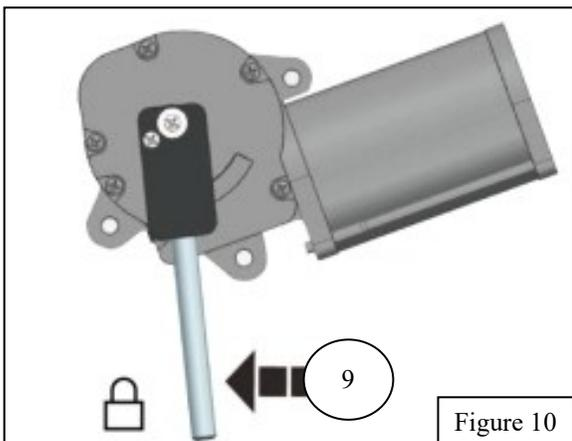

Figure 10
5. Install the motor clutch handle (**Item 9**) onto the motor assembly. Lift the handle upward to disengage the motor. Rotate the motor arm (A) so that it aligns with the rotating shaft in the canister (B). See **Figures 10 & 11**.